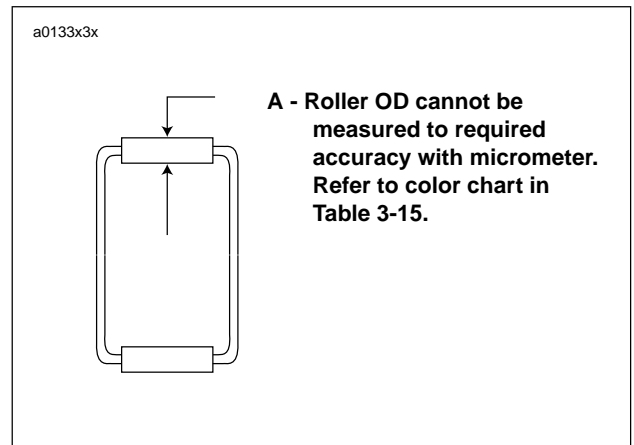

Figure 3-144. Bearing Identification
14. See Figure 3-144. Pinion bearings are identified as shown.